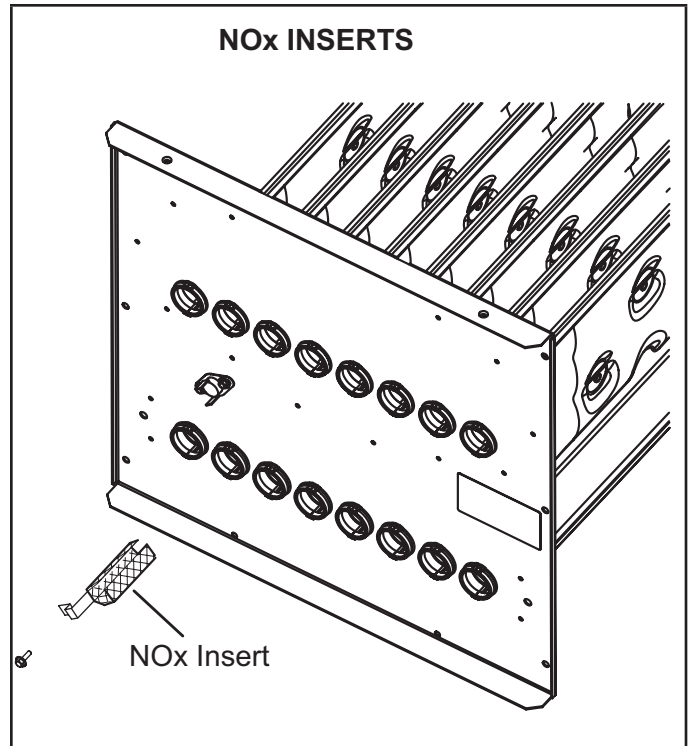

FIGURE 26
- 7 - **NOX units only** - Remove screw securing NOX insert. Remove NOX insert. See figure 26.